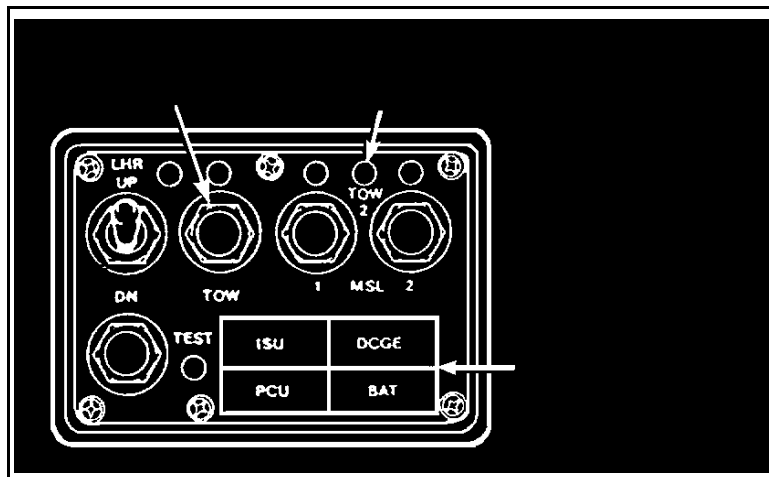

Figure 5. M2A1 TOW control box.
- f. Press the TOW button. The system performs a self-test (Figure 5).